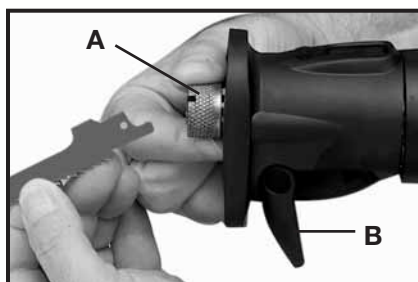

Fig. 3
NOTE: The keyless *Quik-Change*™ pivoting guide shoe can be temporarily removed to make blade installation easier. Release locking lever (B) Fig. 3 to remove (see “Pivoting Guide Shoe Adjustment with keyless *Quik-Change*™” section of this manual).